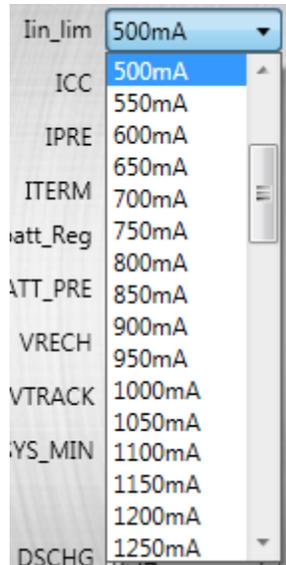

Figure 7: Setting the Input Current Limit
- The default value is 500mA. Set the input current limit so that it meets the input source capacity (see Figure 7 on page 6).